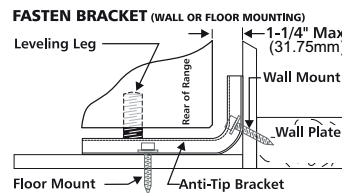

Fig. 5
**1b. Drill Pilot Holes & Fasten Bracket** - Drill a 1/8" pilot hole where screws are to be located. If bracket is to be mounted to the wall, drill pilot hole at an approximate 20° downward angle (See Fig. 5).